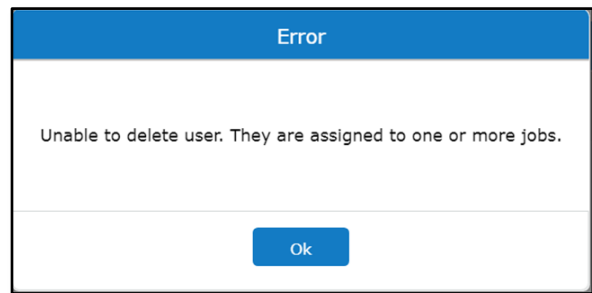

Figure 3: Error message when attempting to delete a user account with assigned job(s).
- **Delete** – Clicking on the `Delete` button will erase the selected user account from Roofing Passport. **NOTE** – If you attempt to delete a user account that currently has jobs assigned to it, you will receive the error message shown in **Figure 3** at right. All jobs assigned to the user must be reassigned before the account can be deleted.